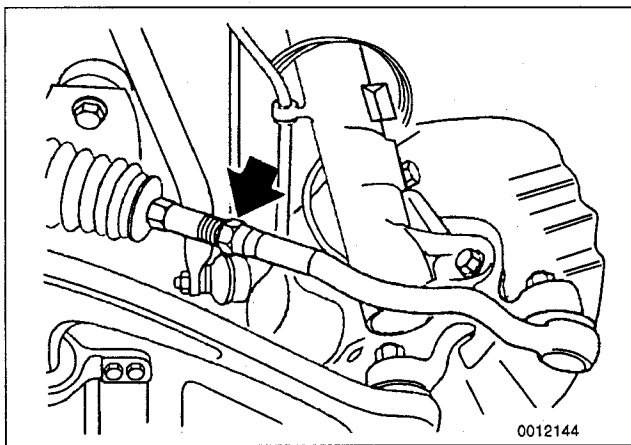

Fig. 9. Outer tie rod end lock nut (arrow).
3. Loosen outer tie rod end lock nut. See Fig. 9.